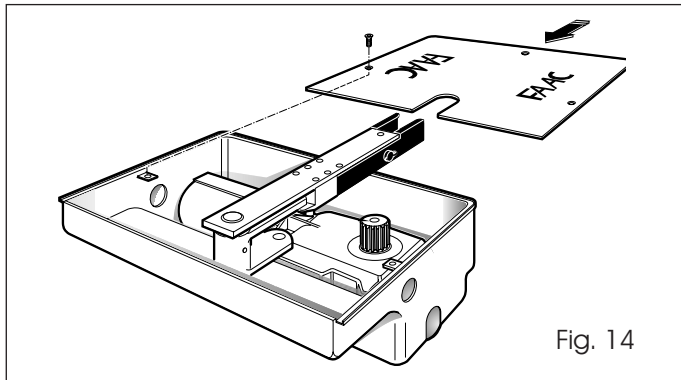

Fig. 14
6. Fasten the box cover using the supplied screws (Fig. 14).